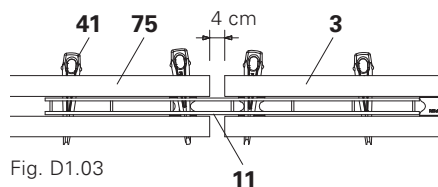

Fig. D1.03
Spacing between the SRU (75) and SRZ Walers (3) is 4 cm. (Fig. D1.03)